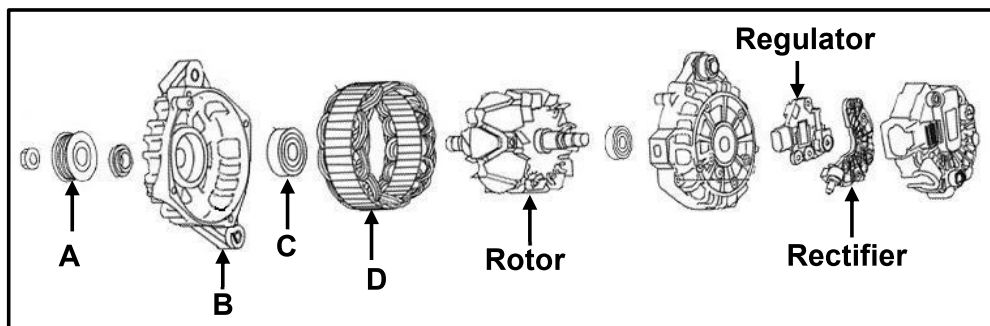

FIGURE 10.8
10.8 FIGURE 10.8 below shows an exploded view of an alternator. Answer the questions that follow.